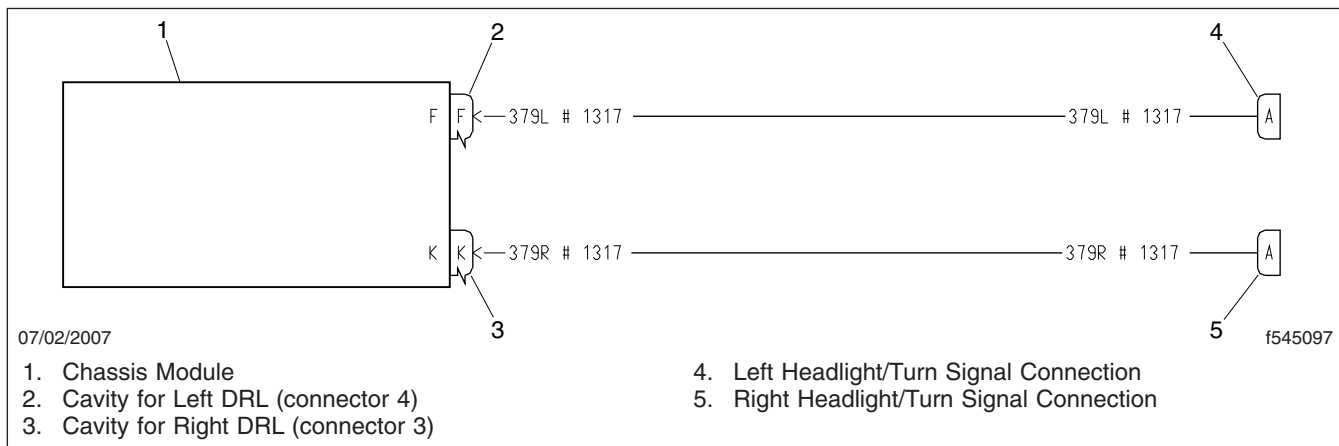

Fig. 1, Basic Wiring Diagram for DRL
- 7.1 Using "Chassis Module" icon, and "Configuration" screen, find the correct cavity locations in the CHM to connect the overlay harness. Locate circuits 379R and 379L. Note the connector and the pin locations. See **Fig. 1**. Typically, the connection for circuit 379R is in C3-K, and the connection for 379L is in C4-F.